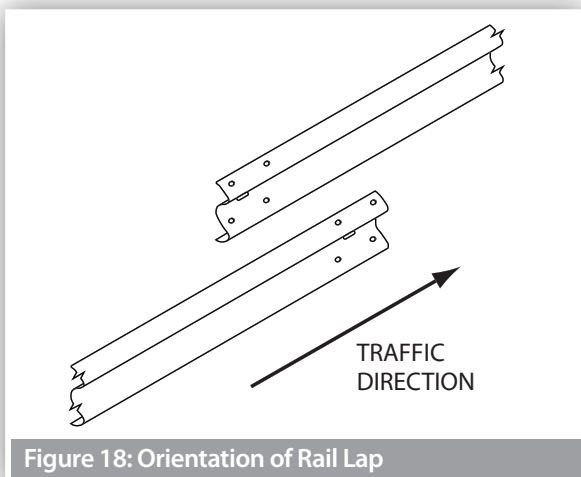

Figure 18: Orientation of Rail Lap
11. Rails are orientated so that no leading edge is presented to the traffic face as shown in Figure 18.